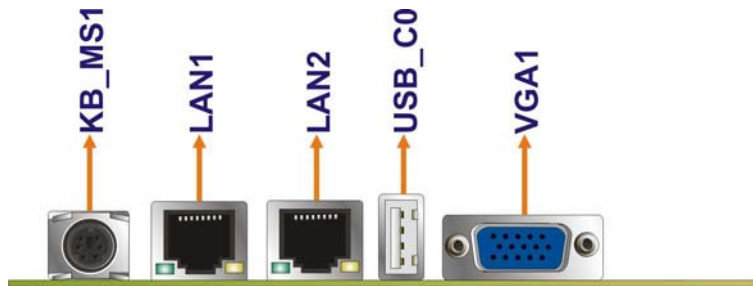

Figure 4-16: WSB-Q354 External Peripheral Interface Connector
Figure 4-16 shows the WSB-Q354 external peripheral interface connector (EPIC) panel.
- CN Location:** See Figure 4-16
CN Location: See **Figure 4-16**